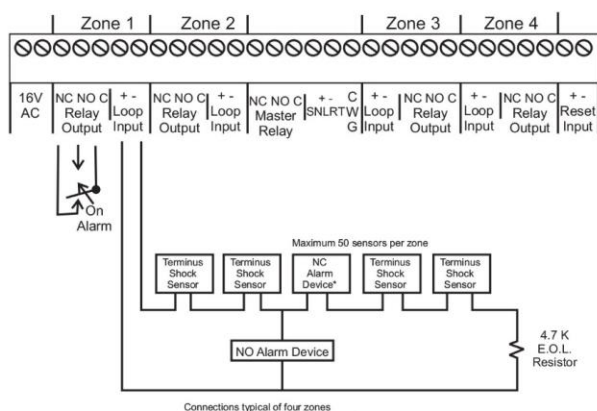

Figure 4
5. Install the Terminus sensor loop connections. As many as 50 Terminus sensors may be connected in series to each set of sensor loop input terminals. 4700 Ohm end of line resistors are provided for each zone. For each loop (zone) the end of line resistor must be wired in series with the sensors for that zone. Referring to Figure 4, you will see that Normally-Open alarm devices should be wired in parallel with the loop for a given zone, while Normally-Closed devices should be wired in series. Please note that the loop terminals are marked "-" and "+". Being aware of polarity is important for testing the loop voltage during troubleshooting procedures. However, when wiring in a loop, the polarity is not important unless you are using the SP3237D (damped) sensor. NOTE: The use of reed type switches is strongly recommended. IMPORTANT: Always use twisted pair cable when wiring Terminus loops.